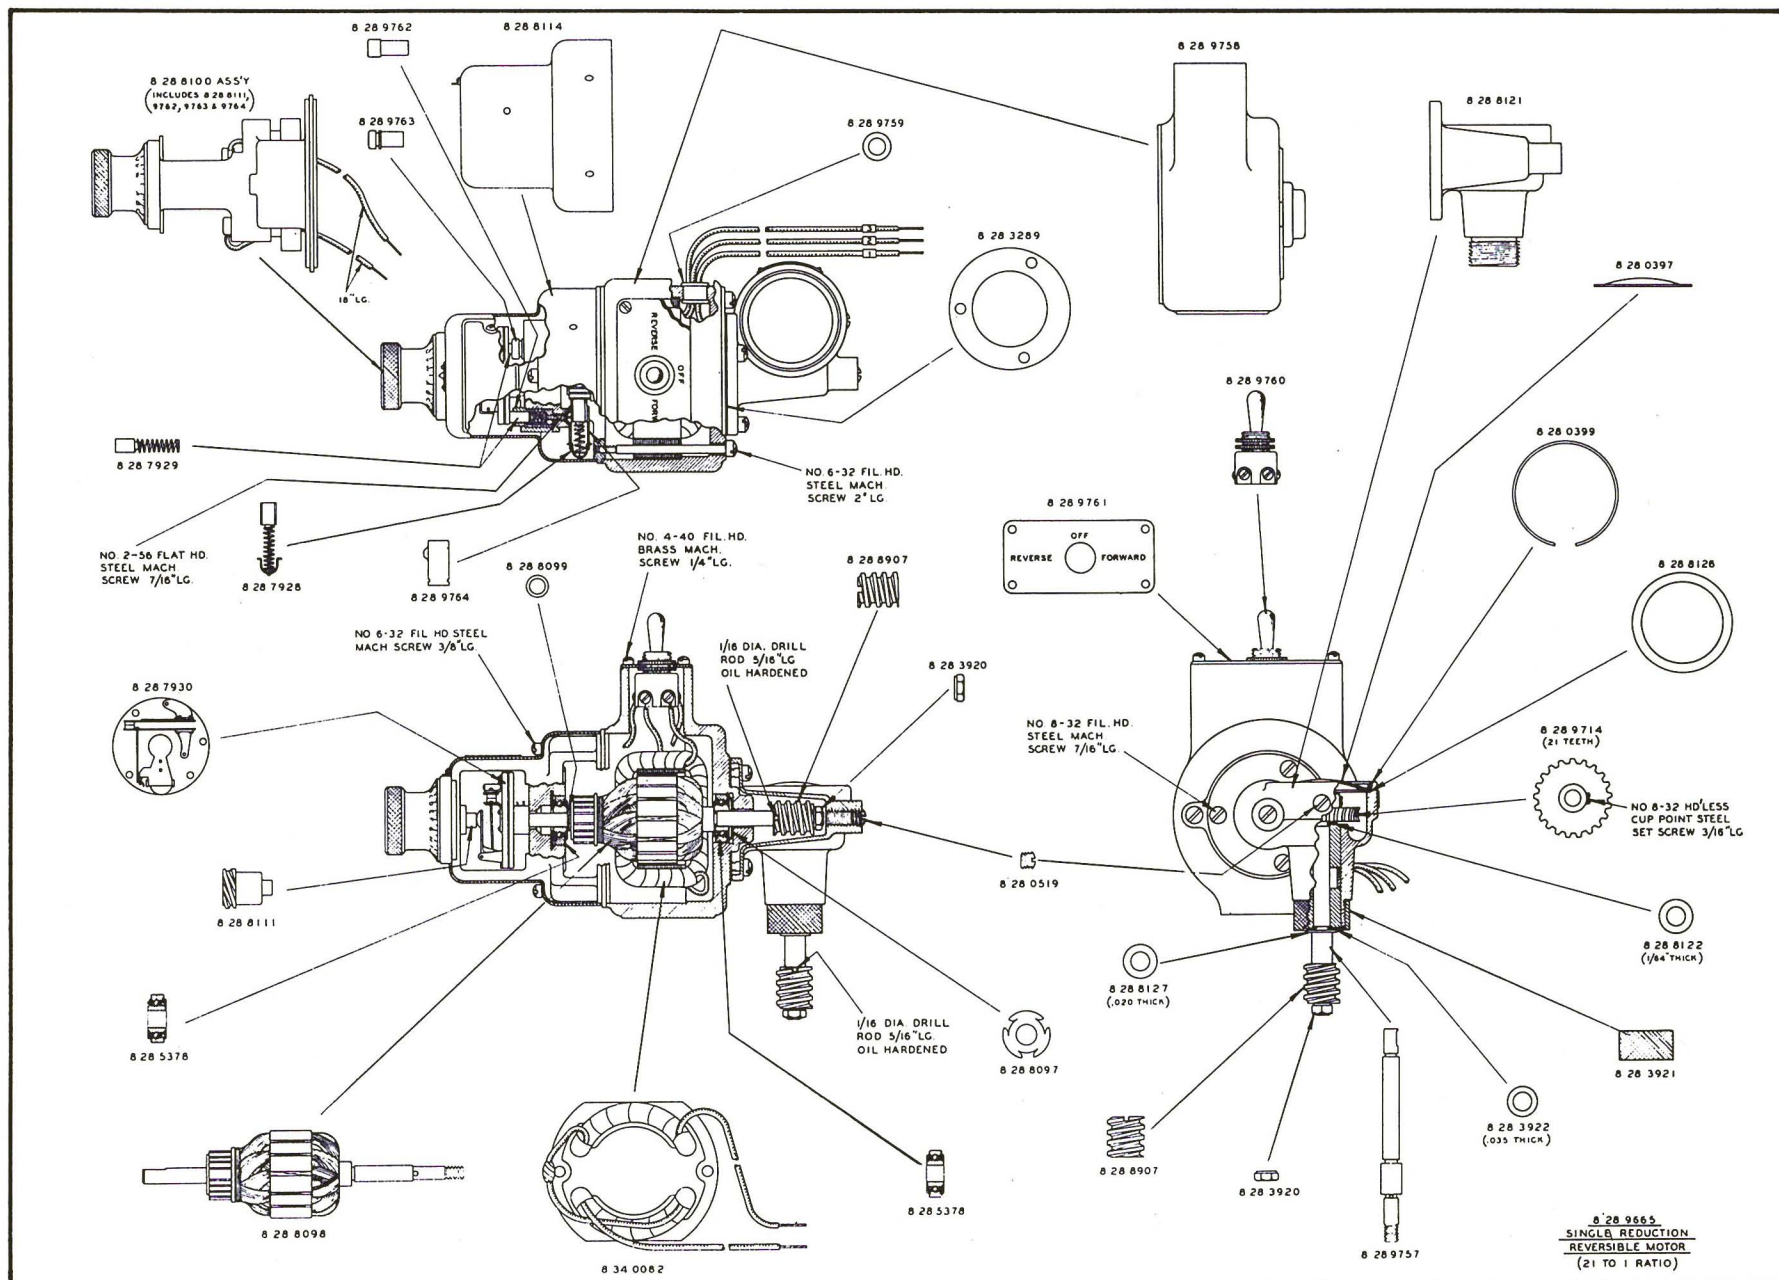

Figure 18. Details of Drive Motor
- 1 – 828 9665 Reversible Motor 21 to 1 ratio (See Fig. 18)